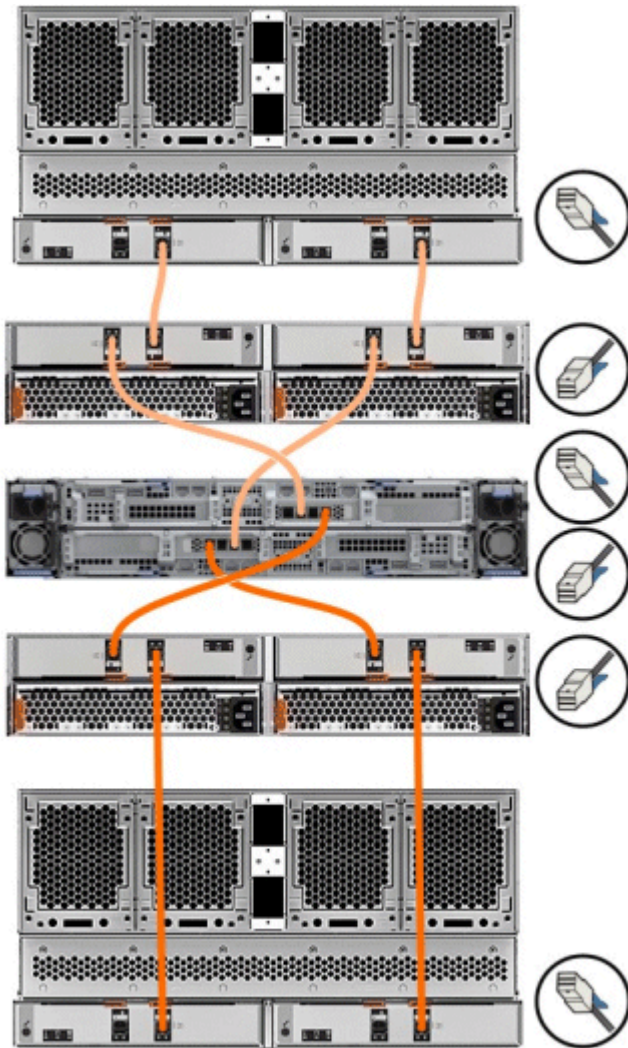

Figure 72. Connecting the SAS cables
Note: When connecting SAS cables between enclosures, you must follow a list of guidelines to ensure that your configuration is valid. Do not begin connecting the cables until you have read Figure 72 on page 73.
1. Using the supplied SAS cables, connect the control enclosure to the expansion enclosure at rack position 1, as shown in Figure 72 on page 73.
2. To add a second expansion enclosure chain to the control enclosure, use the supplied SAS cables to connect the control enclosure to the expansion enclosure at rack position 2. Refer to Figure 72 on page 73 for an example.
3. If additional expansion enclosures are installed, connect each one to the previous expansion enclosure in a chain. Use two Mini SAS HD to Mini SAS HD cables, as shown in Figure 72 on page 73.